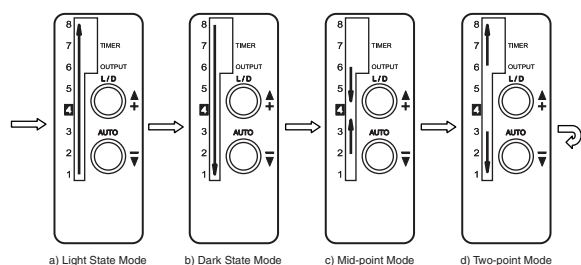

Figure 1. LED flashing sequence for automatic teach modes
- Position the sensor so that its effective ultraviolet (UV) light beam is focused on the luminescent target. The target should glow when excited by UV light.
- While pressing the AUTO button, repeatedly press the "+" button to scroll through the four possible automatic teach modes. The direction of the flashing contrast indicator LEDs (numbered 1 through 8) indicates the current automatic teach mode (see Figure 1). When the desired mode is indicated, release the AUTO button. Descriptions of the four automatic teach modes are below.